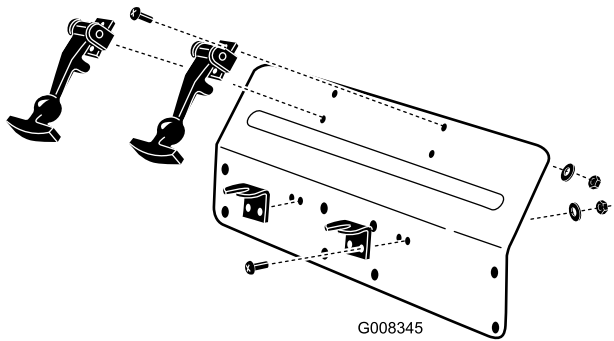

Figure 7
7. Mount the latch brackets and the keeper brackets to the mounting plate with #10 x 1/2 inch screws and lock nuts. Position the brackets as shown in Figure 7.